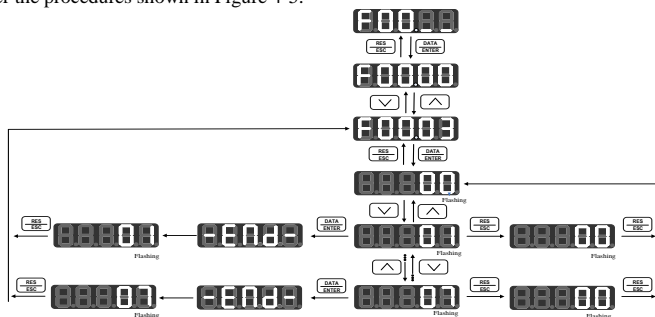

Figure 4-5 Parameter Saving and Resetting Procedures
- Follow the viewing procedures to enter the function code first, and then edit the parameter as per the procedures shown in Figure 4-5.
- Take F00.03 for instance, its original parameter value is 0, save or reset the parameter as per the procedures shown in Figure 4-5.